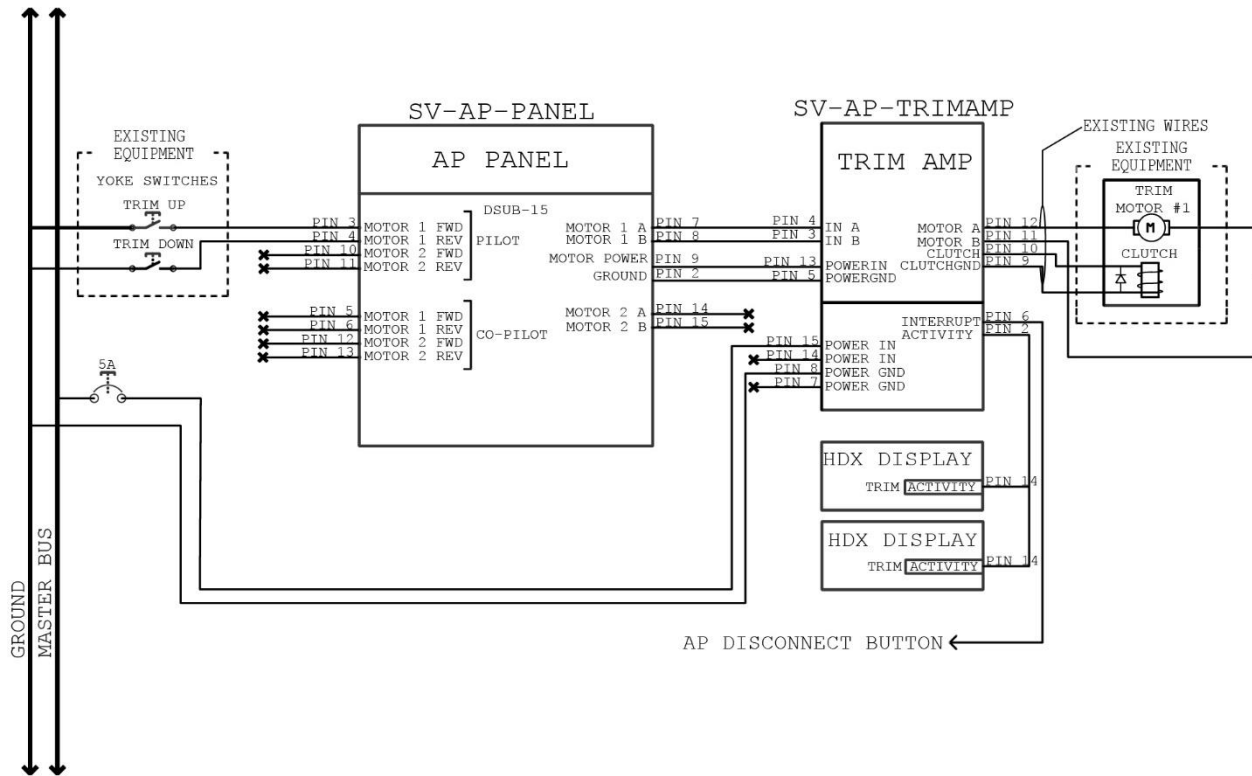

Figure 232 – SV-AP-TRIMAMP Electrical Installation for Motor 1 (Motor 2 Similar)
3. Route SV-AP-TRIMAMP harness as follows (also see Figure 232):
5. Use insulated connectors to connect SV-AP-TRIMAMP harness as follows (also see Figure 232):